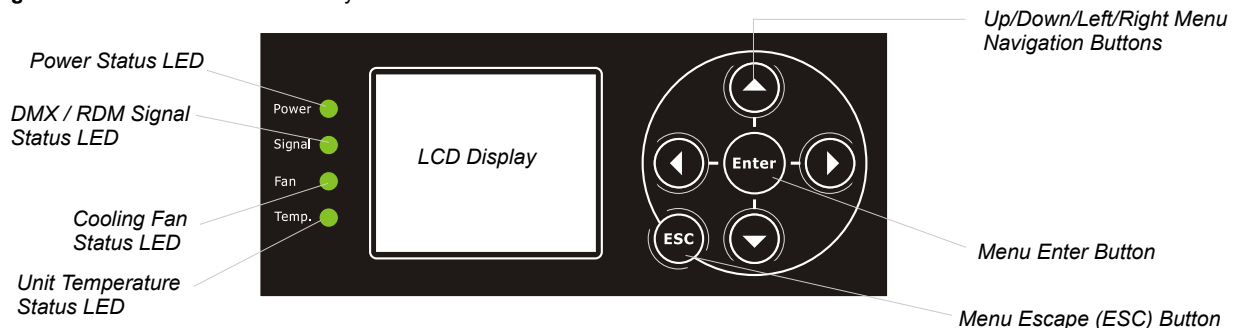

Figure 3: Menu System and Status Indicators
Figure 3 shows the on-board menu system user interface.
To the left of the luminaire LCD display are four (4) LED indicator lights for quick status information of the luminaire. Table 4 on page 6 outlines the LED status indicators (as illustrated in Figure 3) and their meaning.